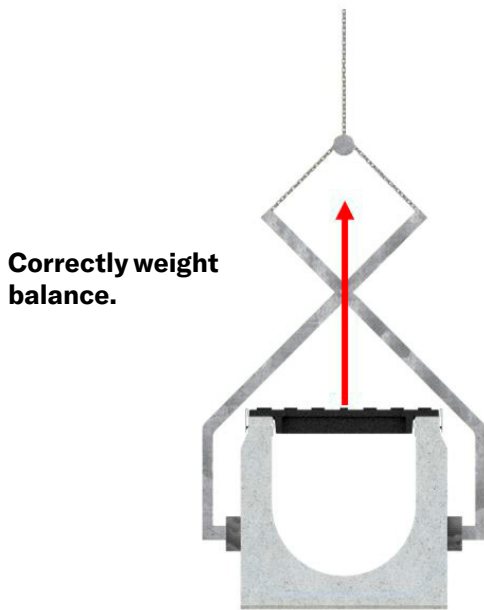

Figure 1
- Check that the weight of the channel is properly distributed, and proceed with lifting (see Figure 1).